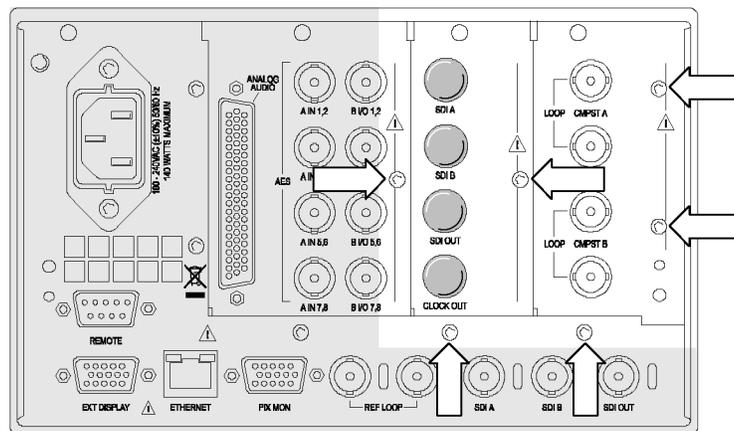

Figure 5: Removing the Option EYE/PHY/3G and CPS rear panel screws
1. Remove the six screws from the Option EYE/PHY/3G and CPS rear panels. (See Figure 5.) Save the screws for reinstallation.
- b. Install the six screws into the Option EYE/PHY/3G and CPS rear panels. (See Figure 5.) Tighten the six screws and any adjacent rear panel screws you loosened to 8 in/lbs.